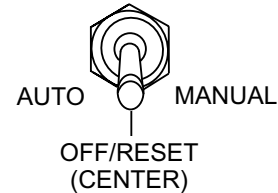

Figure 52. Auto Off/Reset Manual Switch (OFF)
2. If generator is not equipped with an emergency stop pushbutton switch, place the **Auto Off/Reset Manual Switch** (Figure 52) in the **OFF/RESET** position.